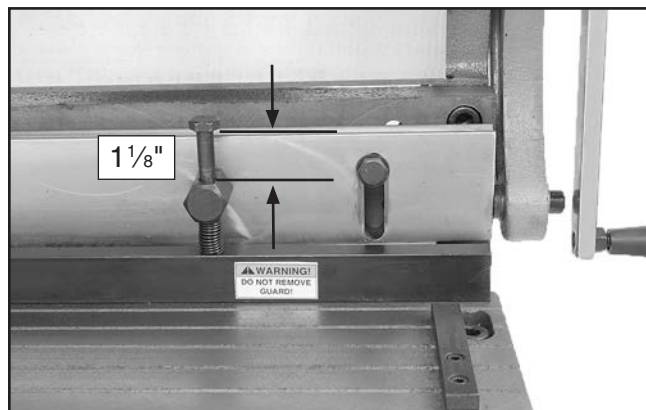

Figure 59. Hold-down bolt height.
1. Use the work lever and lower the blade completely. Loosen or tighten the hex bolt so there is approximately $1\frac{1}{8}$ " between the stud and the underside of the bolt head, as shown in **Figure 59**.